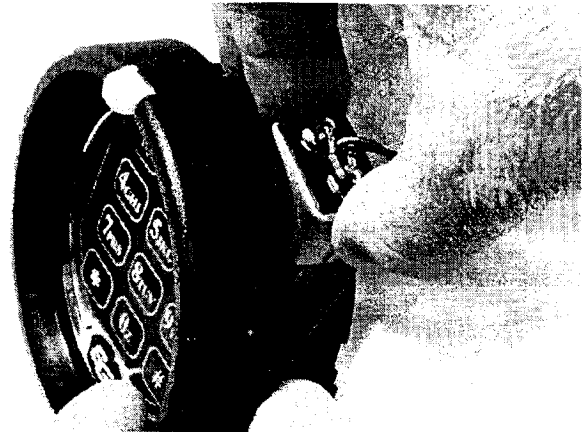

Figure 4
Step 4—Carefully slide the battery behind the keypad, into the cavity that is designed to hold it (Figure 4). Be sure the battery has dropped all the way to the bottom of the cavity.